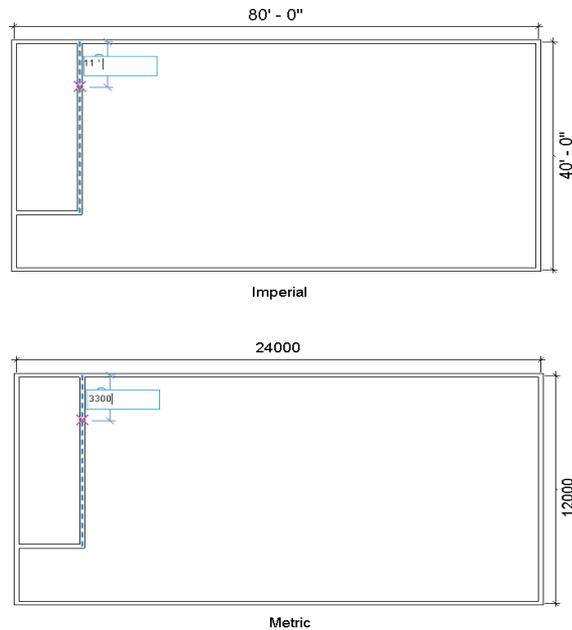

**Figure 3-65** Specifying the distance for starting the first interior wall segment
1. Move the cursor near the top left end of the wall and then start moving the cursor horizontally toward the right. Enter **10'0"** for Imperial or **3000 mm** for Metric when the temporary dimensions and the intersection object snap appears, as shown in Figure 3-65. Now, press ENTER; the starting point of the first interior wall is specified.